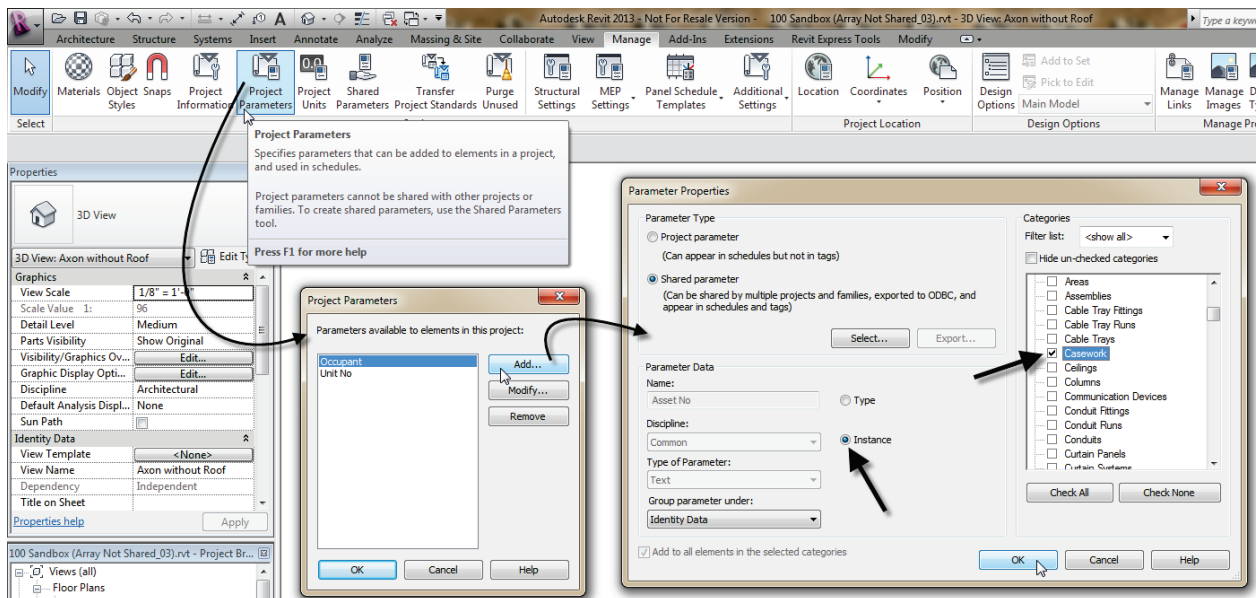

Figure 11—Add a new Project Parameter
4. Choose either a Type or Instance parameter and optionally change the Group parameter under setting. Finally, on the right from the category list, select one or more categories (such as Casework) for this parameter (see Figure 11).